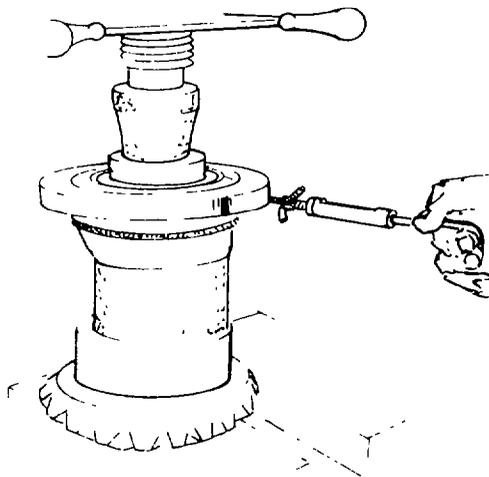

Fig. 322 — Checking Bearing Pre-Loading
- k. Using the hydraulic press, apply 15 454 kg (34 000 lb) pressure to the bearing retainer assembly. Wrap a cord several times around the bearing retainer, then attach a suitable spring scale to the end of the cord (see fig. 322). Pull on the scale with a slow steady pull until the housing rotates. The correct load on the scale to keep the housing turning slowly and evenly is 1.36 – 2.72 kg (3 – 6 lb). If the reading on the scale is not within the correct range, replace the spacer with a thicker or thinner spacer as necessary, to obtain the correct reading.